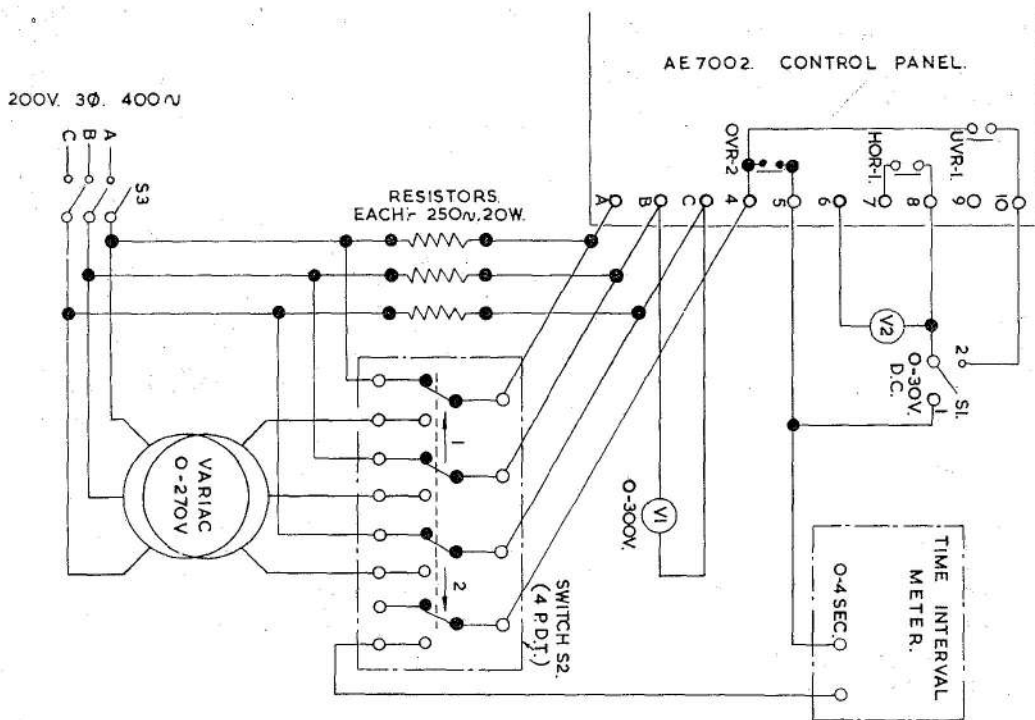

Fig. 4. Test circuit
13. For the following tests connect the panel into the circuit shown in fig. 4. It should be noted that the overvoltage relay is to be set once only as detailed in para. 12.